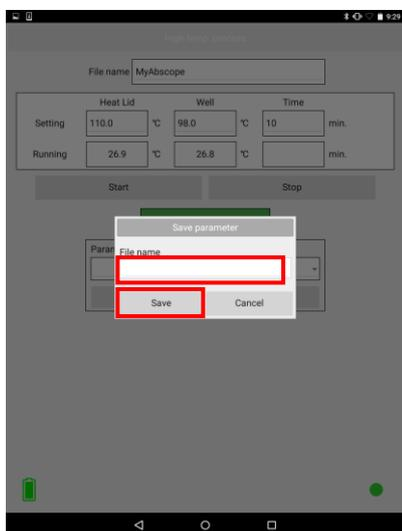

Figure 3-6: Parameter save screen
To save the settings, tap the parameter file save button (7) in Figure 3-4, enter the file name on the save screen shown in Figure 3-6, then tap “Save.” If you tap “Cancel,” the file is not saved.